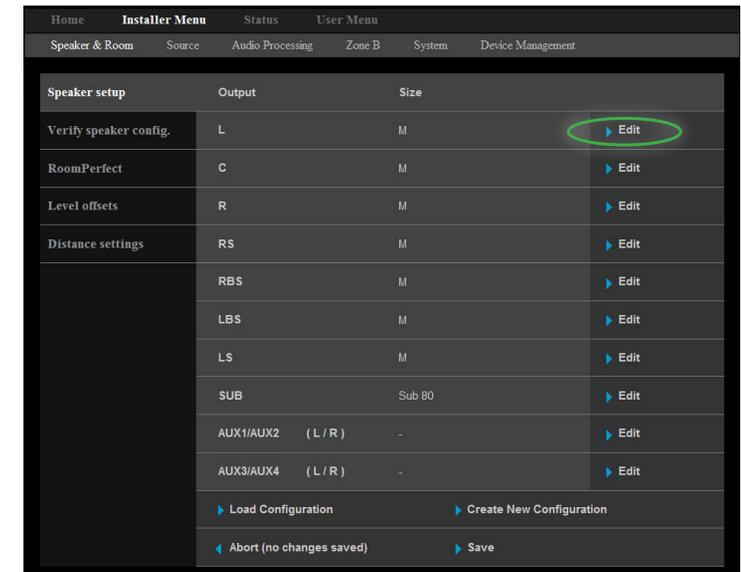

Figure 6
7. Select the “L” Output by clicking on “Edit” on the same line. Refer to figure 6.